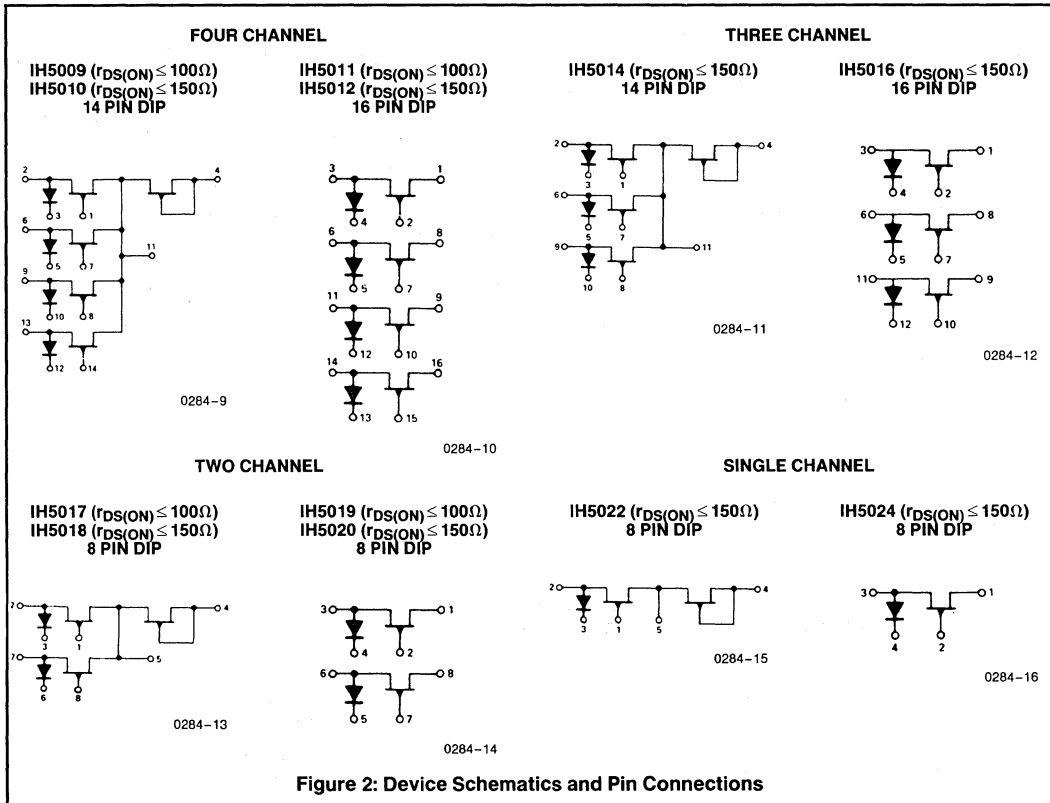

Figure 2: Device Schematics and Pin Connections
- NOTES: 1. (OFF) and (ON) subscript notation refers to the conduction state of the FET switch for the given test.
2. Refer to Figure 2 for definition of terms.